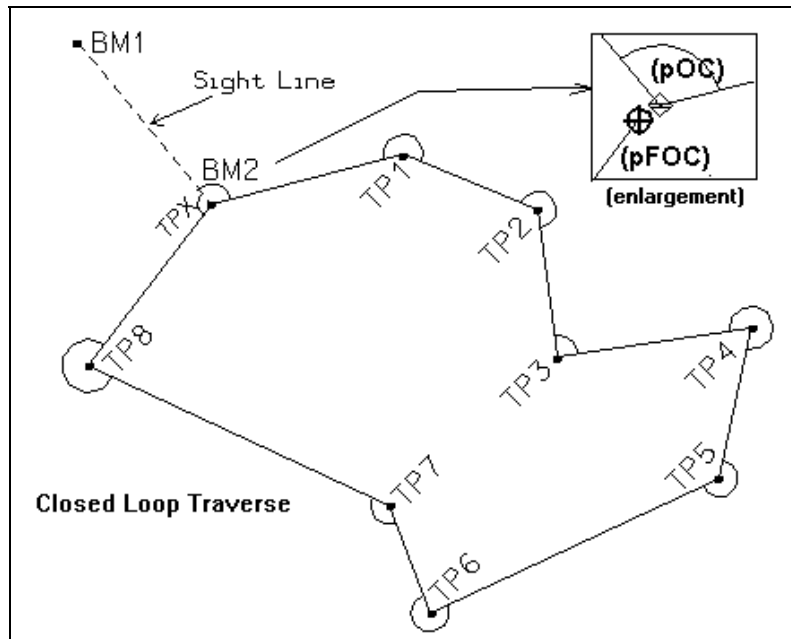

Figure 16.3: Least Squares Adjustment Example 1 Traverse
6. A report will be generated to the screen and a file (or as set in the [Parameter File] - [Output Options]) for the Least Squares Closure as shown in Figure 16.3 below. Accept or Reject the output.
From this input, the traverse as described will be adjusted around point BM2. This closed loop traverse is expected to close again on point BM2 and from the field observations, the location of TPX is expected to fall on the same location as BM2. This is shown in Figure 16.3 below.